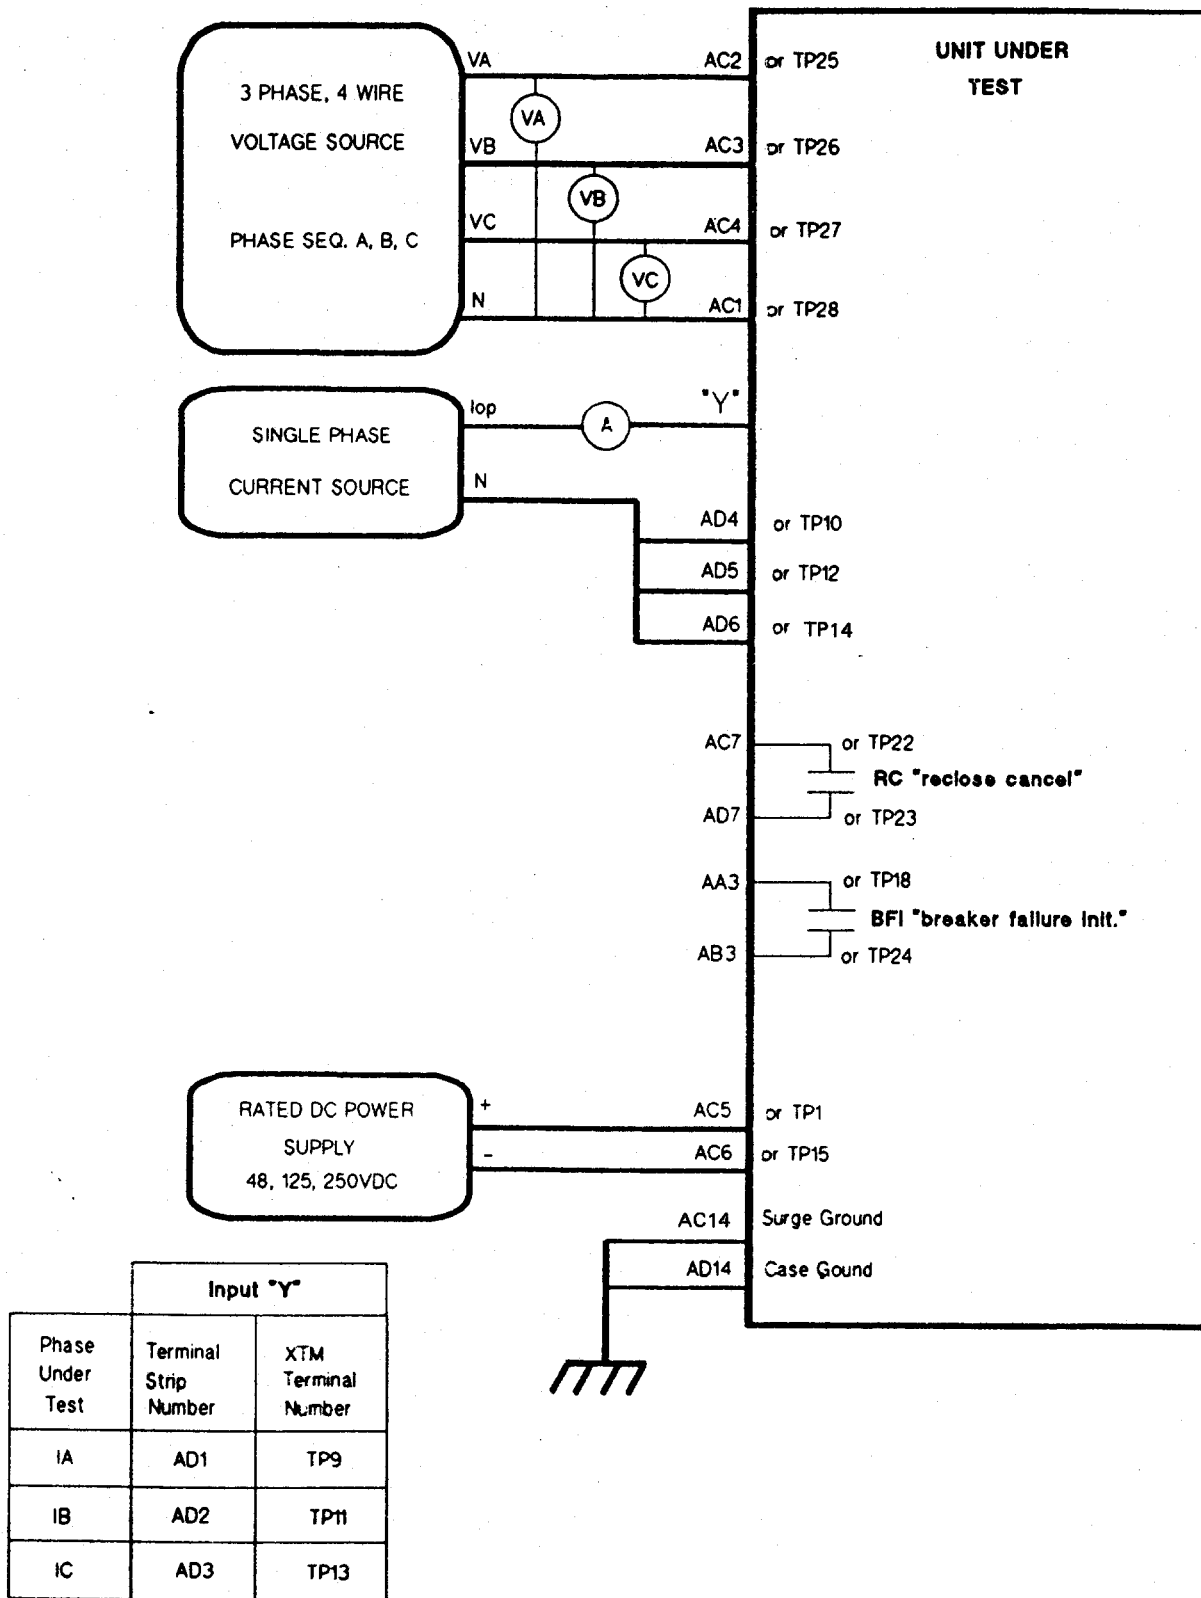

Figure AT-1 (0286A1816 [2]) AC Input Test Connections
1. Connect the relay as shown in figure AT-1. Apply rated DC power and wait for initialization to complete, as indicated by the green LED.